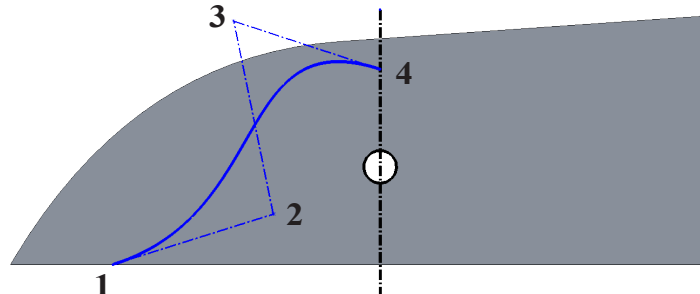

Fig. 70
Step 8. Sketch a **4 control vertex point Spline** between bottom edge of body in front of axle hole and centerline above axle hole, **Fig. 70**. Press Escape to end spline.